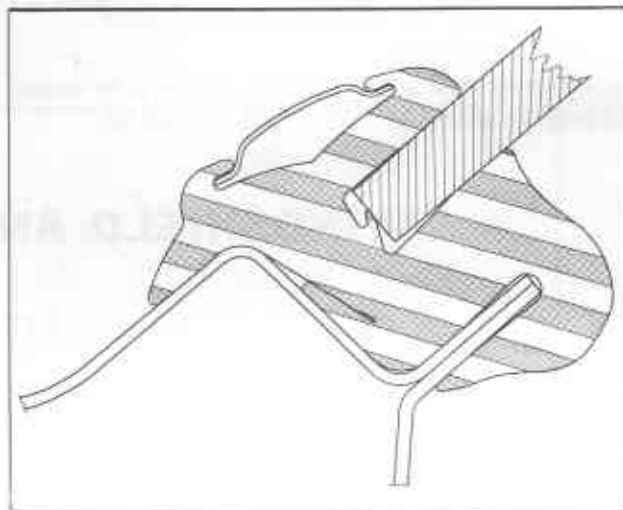

Fig. BF-22 Sectional view of rubber channel
- f. Using a pressure type applicator, seal inner and outer lips of rubber channel to glass with an approved weatherstrip adhesive as indicated in Figure BF-22. Seals completely around rubber channel.